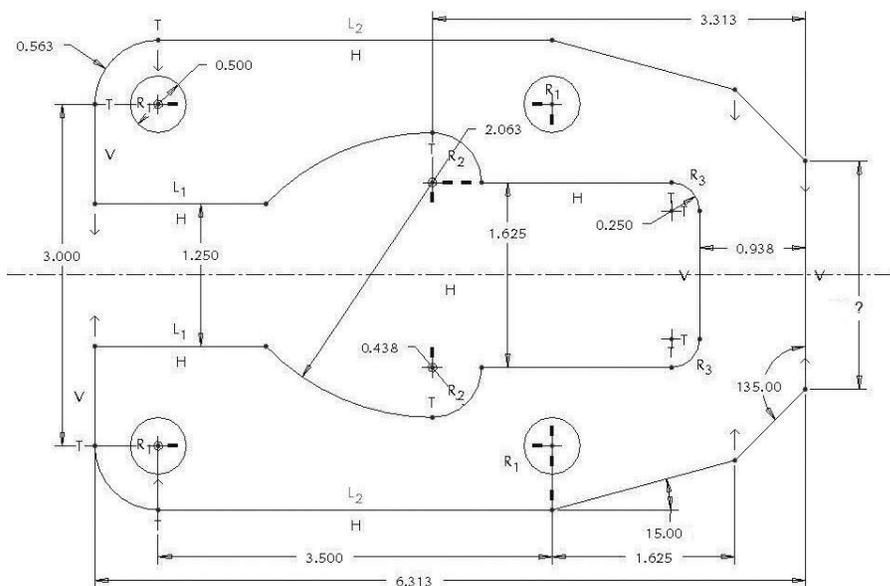

Figure 3-71 Problem 2
- 3.2** Draw latch plate61 (Figure 3-71). **Design Intent**—The plate must be symmetrical about a horizontal centerline (draw 1st). The four holes must be at the corners of a 3.000 inch by 3.500 inch imaginary box. Note that the beginning of the 15° line is directly below or above the center of the circles of radius R1. What is the length of the far right vertical line and the line L₁?